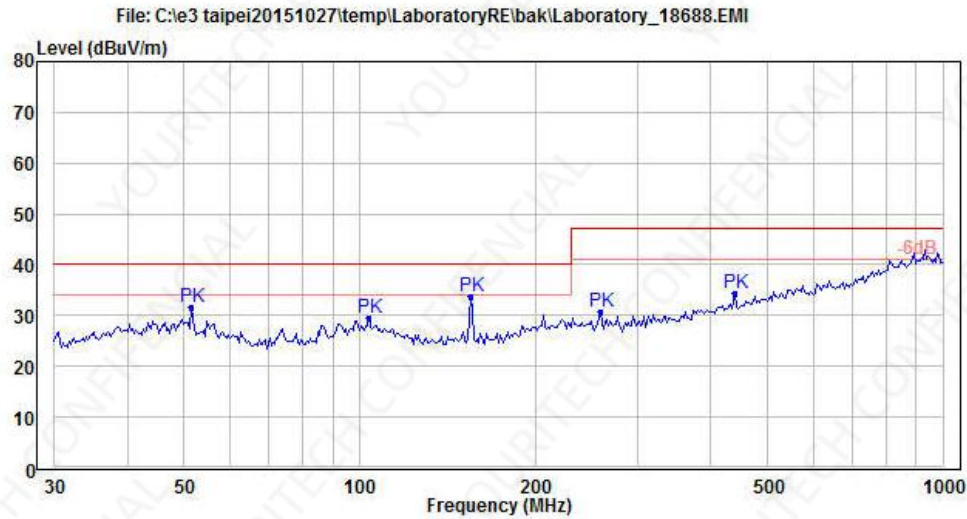

Figure 5-7 Radiation test vertical
2. Radiation test vertical test data, as shown in Figure 5-7